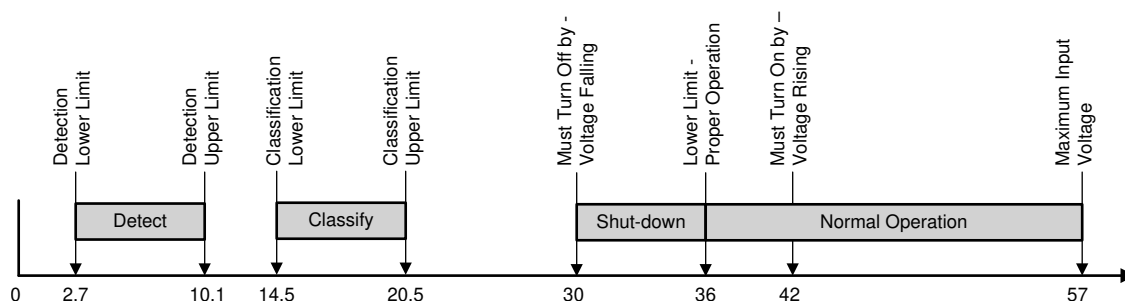
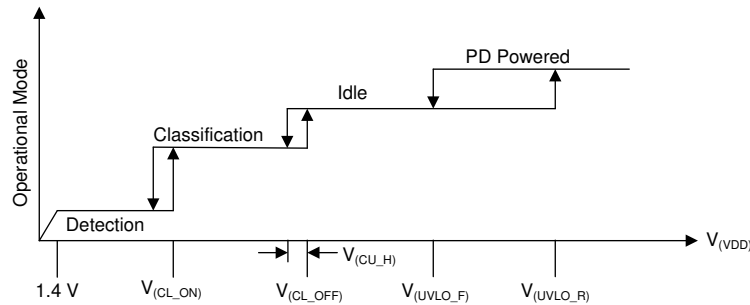

Figure 11. IEEE 802.3 PD Voltage Limits
Figure 12. Threshold Voltages
The TPS2376-H incorporates an undervoltage lockout (UVLO) circuit that monitors line voltage to determine when to apply power to the downstream load and allow the PD to power up. The IEEE 802.3af specification dictates a maximum PD turn on voltage of 42 V and a minimum turn-off voltage of 30 V shown in Figure 12. The UVLO pin provides the flexibility to adjust the turn on and turn off to the IEEE 802.3af limits, or a custom set. Design the turn-on for 39.5 V if a design which uses the IEEE 802.3af limits is desired.
The IEEE 802.3af specification defines a process for safely providing power over an ethernet cable when a capable device is connected, and then removing power if it is disconnected. The process proceeds through three operational states: detection, classification, and operation. An unterminated cable is not powered. The PSE periodically probes the cable with low voltage, looking for a 25 k $\Omega$  signature; this is referred to as detection. The low power levels used during detection are unlikely to cause damage to devices not designed for PoE. If a valid powered device (PD) signature is present during detection, then the PSE may optionally inquire about the amount of power the PD requires; this is referred to as classification. The PD may return a default full-power signature, or one of four other defined choices. In a high-power system, class may not be required, or the levels may be redefined to suit that particular system. The PSE may use the class power to determine if it has adequate power to operate this device, and later to determine if a device is using more power than it requested. At this point in the process, the PSE may choose to power the PD. The PSE output is protected against shorts and overloads when the PD is powered. The maintain power signature (MPS) is presented by the powered PD to assure the PSE that it is present. The MPS is either a minimum dc current, a maximum ac impedance, or both. When the MPS disappears, the PSE removes power and returns to its initial state. Figure 11 shows the operational states as a function of PD input voltage range as defined in IEEE 802.3af.
In order to implement the defined PoE functions shown in Figure 11, the TPS2376-H has a number of internal comparators with hysteresis for stable switching between the various states. Figure 12 relates the parameters in the Electrical Characteristics section to the PoE states. The mode labeled *idle* between classification and PD powered implies that the DET, CLASS, PG, and RTN pins are all high impedance.
The classification process applies a voltage between 14.5 V and 20.5 V, for a maximum of 75 ms, to the input of the PD, which in turn draws a fixed current set by  $R_{(CLASS)}$ . An 802.3af PSE measures the PD current to determine which of the five available classes shown in Table 1 that the PD is signaling. The total current drawn from the PSE during classification is the sum of bias currents and current through  $R_{(CLASS)}$ . The TPS2376-H disconnects  $R_{(CLASS)}$  at voltages above the classification range to avoid excessive power dissipation see Figure 11 and Figure 12.